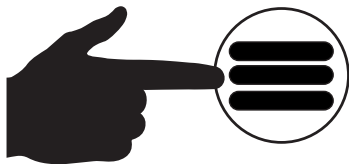

Figure 158. Main Menu Button
- Press the **Main Menu** button (Figure 158).